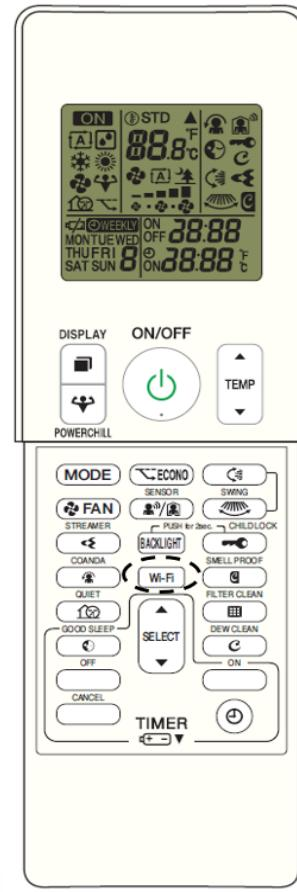

Fig.2
- 6) Open the DAIKIN AC MANAGER 2.0 MOBILE APP and select “Add Units” (Fig.2) and connect to your home network as per the on-screen instructions.